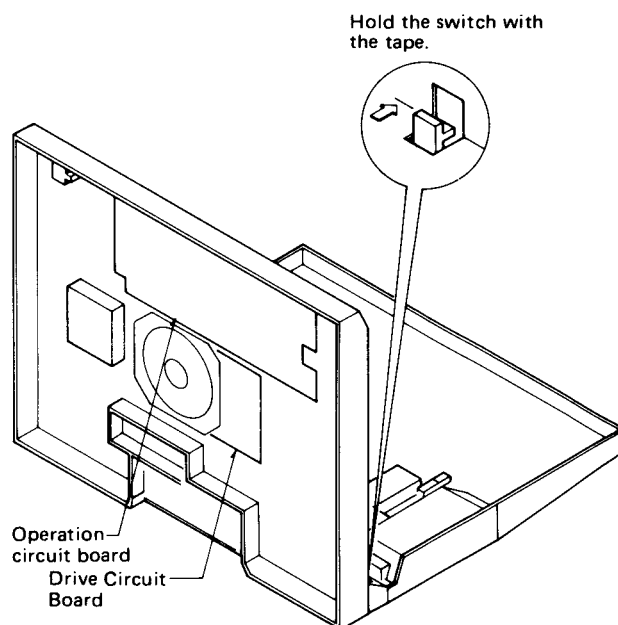

Fig. 9
2. How to raise the set (Fig. 9)